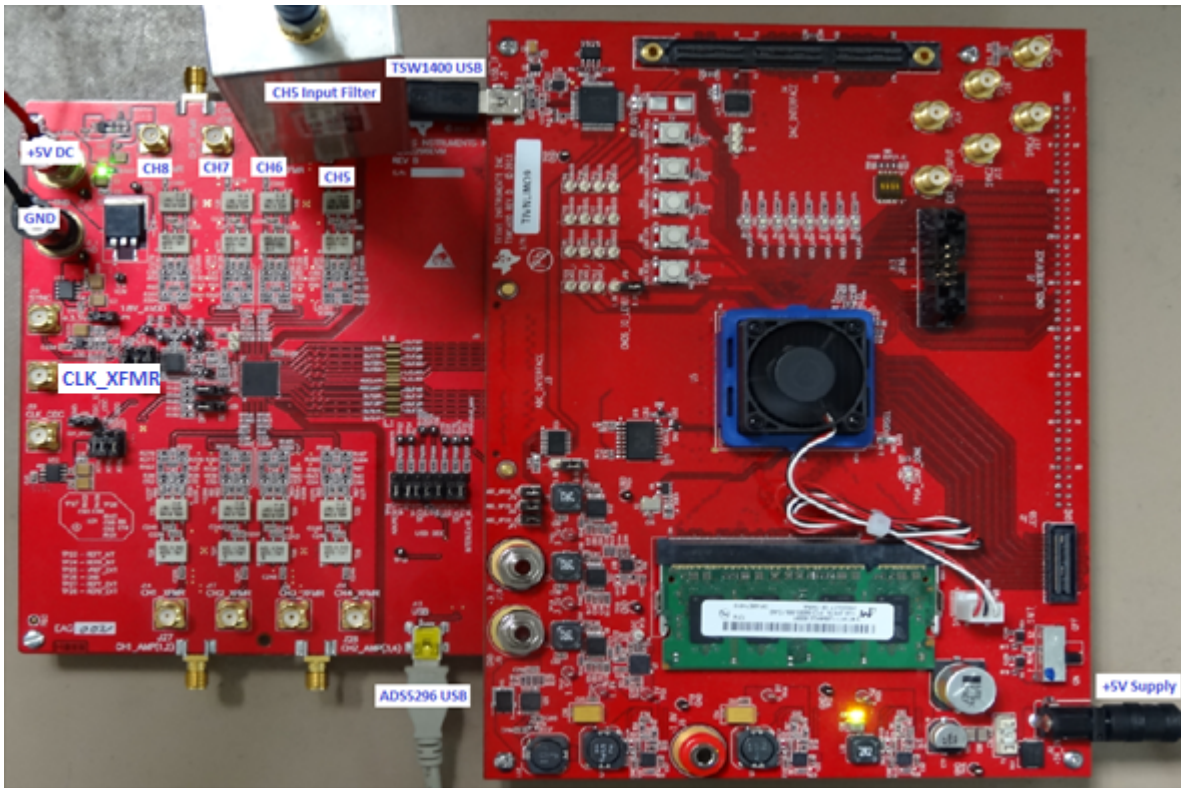

Figure 38. Octal Non-interleaving Mode Hardware Setup
2. With the setup established in Figure 38 and Figure 37, perform the following steps:
- (b) Enable the signal generator providing the input signal to SMA **J15** labeled **CH5_XFMR** (+15 dbm, 10 MHz). For high-performance results the instrument should have low phase noise and low harmonic distortion. In addition, a filter is recommended on the input as shown in Figure 38.